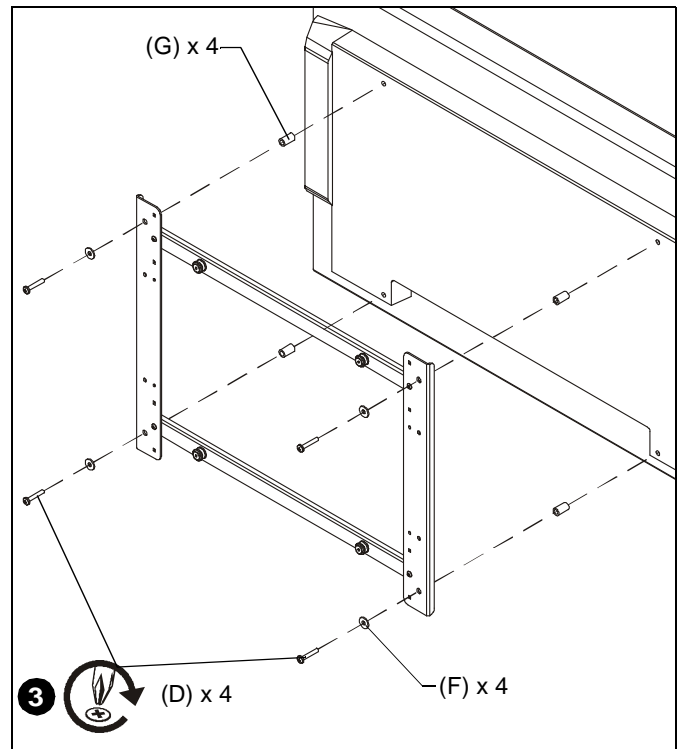

Figure 2
3. Attach interface bracket to back of display using four M6 x 35mm Phillips cap head screws (D), four M6 flat washers (F) and four .51 x .32 x .875 spacers (G). (See Figure 2)